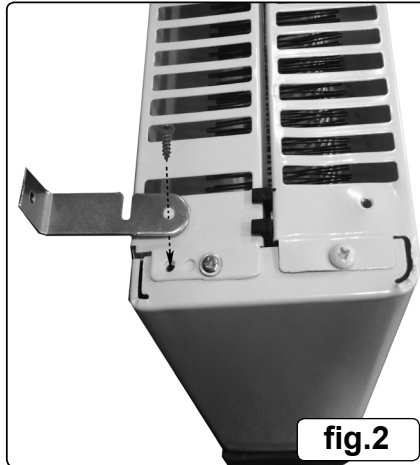
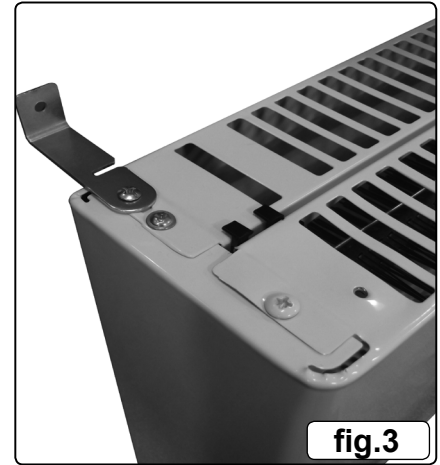

fig.2
fig.3
- 3.4. Sort the wall mounting brackets into two pairs having a right hand and a left hand bracket in each pair. Take one pair of brackets and mount them to the underside of the heater using self tapping screws as shown in fig.2 and fig.3. Each bracket should be fixed in the pre-drilled holes provided.